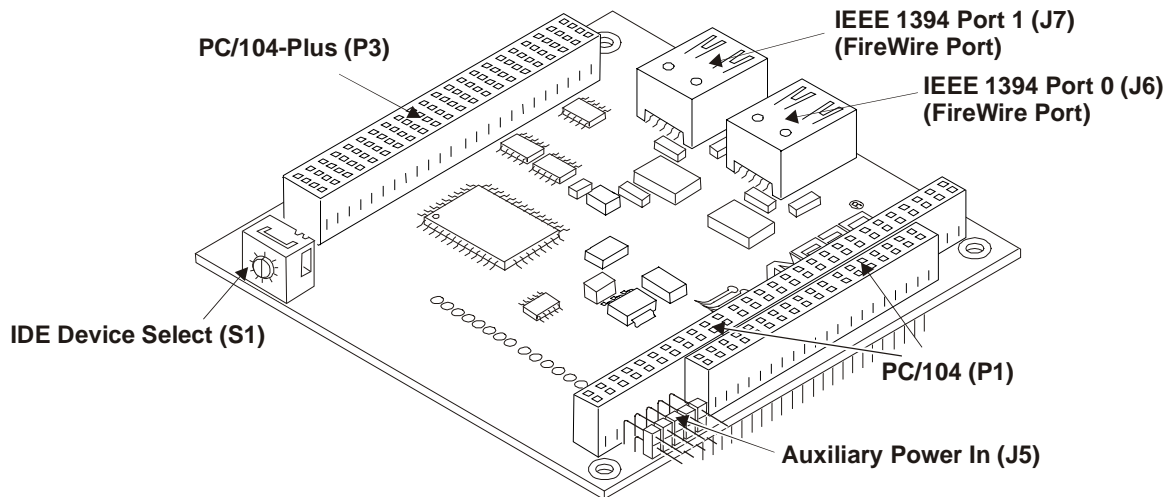

Figure 2-3. MiniModule 1394
17) Set the Device ID in the stack, if known.	The Device ID Select switch (S1) is used to configure the PCI position of MiniModule 1394 in the board stack. Refer to Figure 2-3, Table 2-1, and Table 3-3 in Chapter 3, Product Overview for more information.